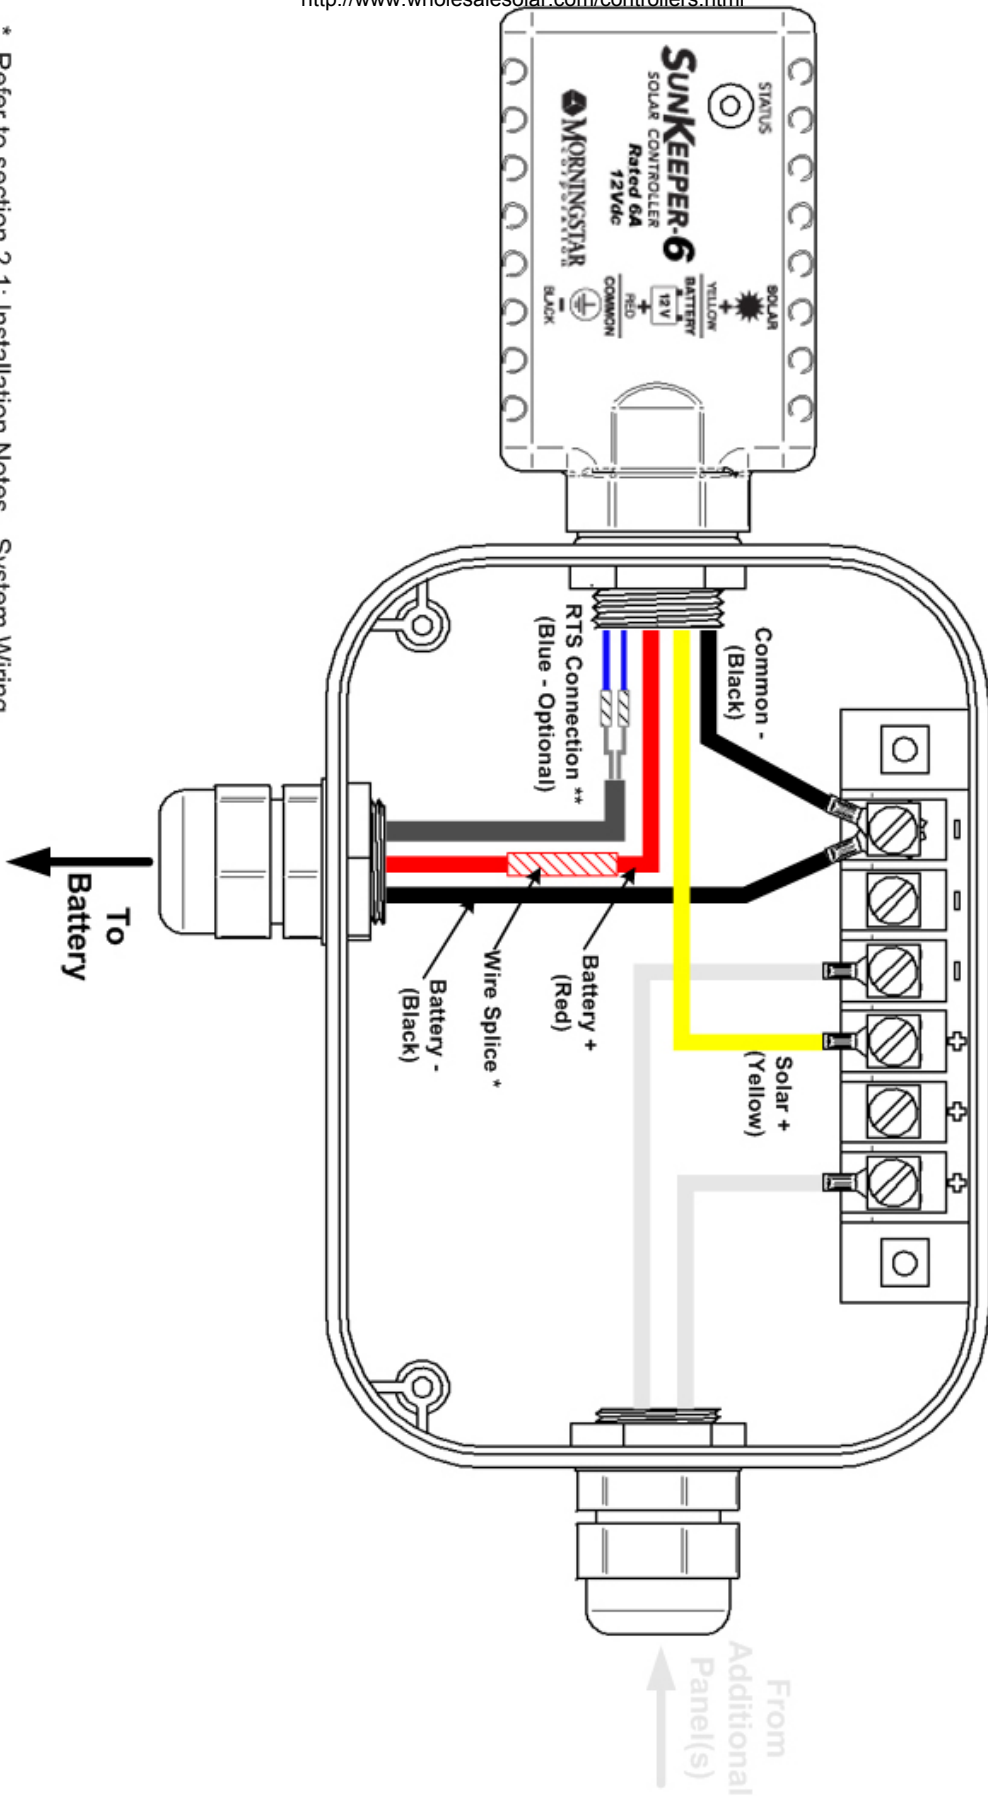

Figure 2. J-Box Wiring
- c. Crimp or splice the two (2) blue wire leads to the two RTS wires (red & black). Polarity is not important. Refer to section 2.1: *Installation Notes - System Wiring*.
9. Wire the SunKeeper as shown in Figure 2. Wiring may differ slightly depending on the solar module manufacturer. Terminal locations and the number of terminals may also differ. Splices may not be necessary if extra junction terminals are provided. Refer to the documentation supplied with the solar module.